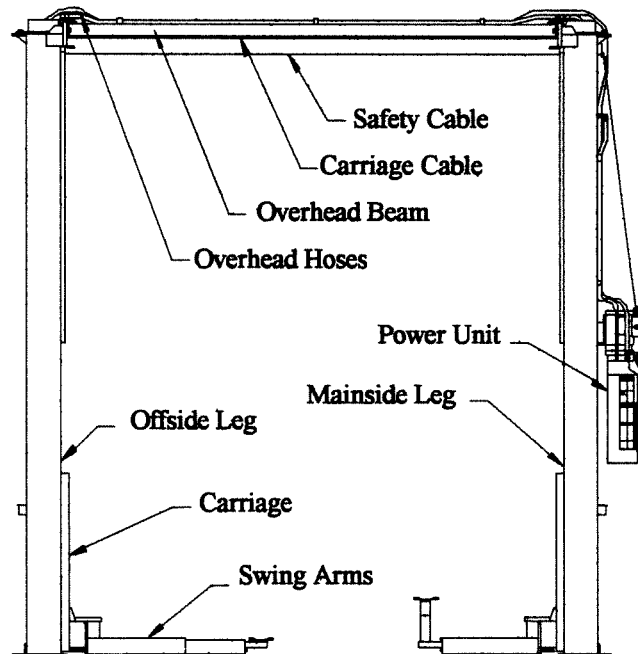

FIGURE 2
3. Figure 2 shows how the lift is assembled and lists the different parts to the lift.